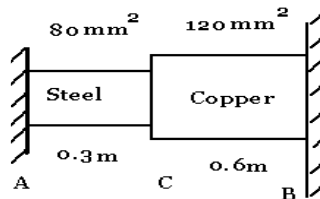

Figure 8
37. A stepped bar shown in **Figure 8** is fixed at its two ends rigidly. The bar is free from stresses when its temperature is 30°C. When the temperature of the bar is increased to 90°C determine i) Stresses induced in steel and the copper portions and ii) Displacement in the junction at point C. Take  $\alpha_c=1.8 \times 10^{-5}/^{\circ}C$ ,  $\alpha_s=1.2 \times 10^{-5}/^{\circ}C$ ,  $E_c=100$  GPa,  $E_s=200$  GPa.